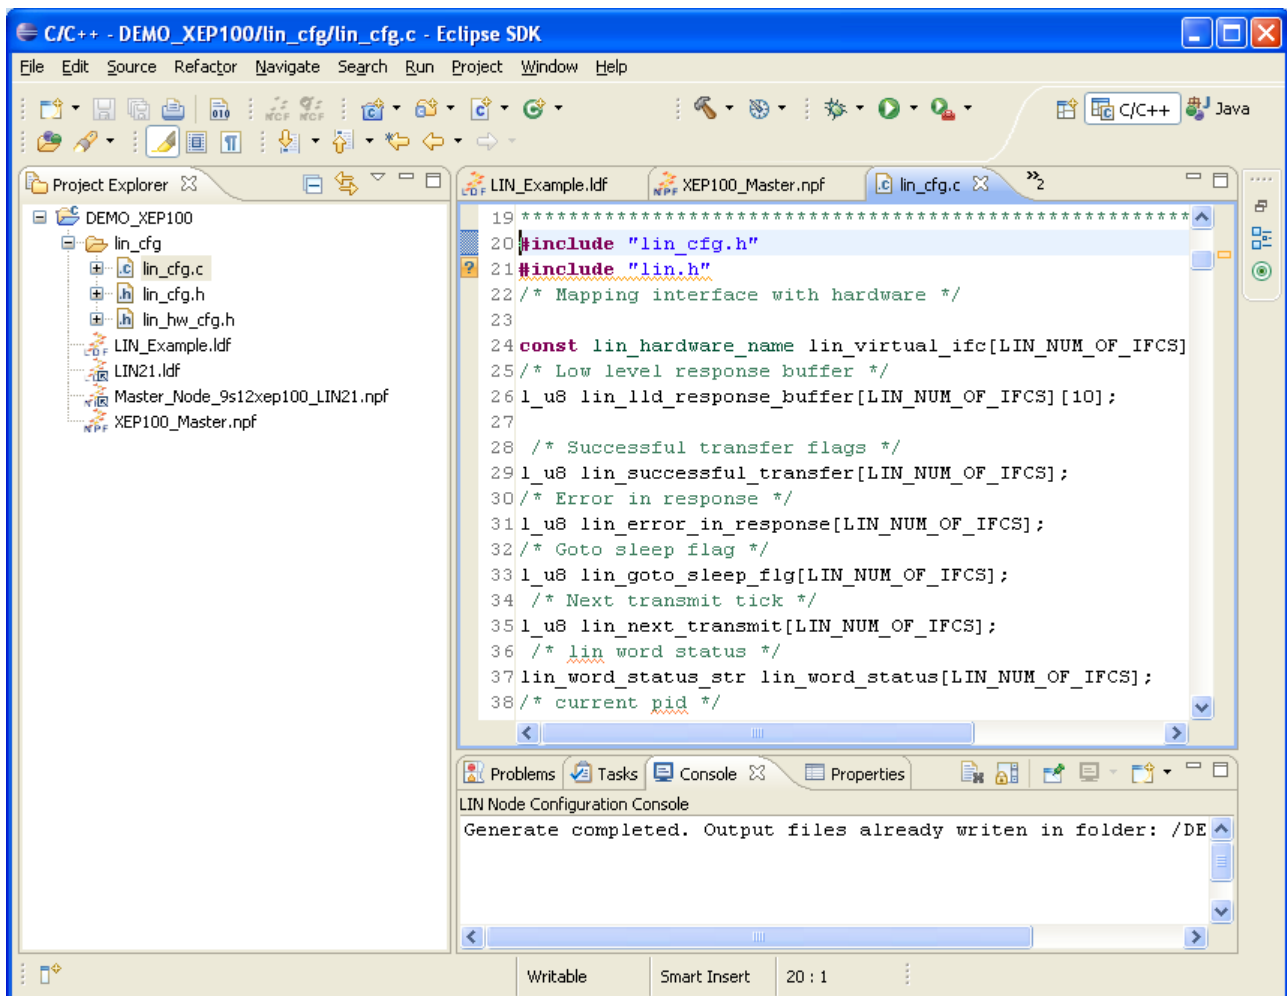

Figure 3-39: Configuration code for XEP100
15. Click "OK" button, the final configuration code is shown in Figure 3-39